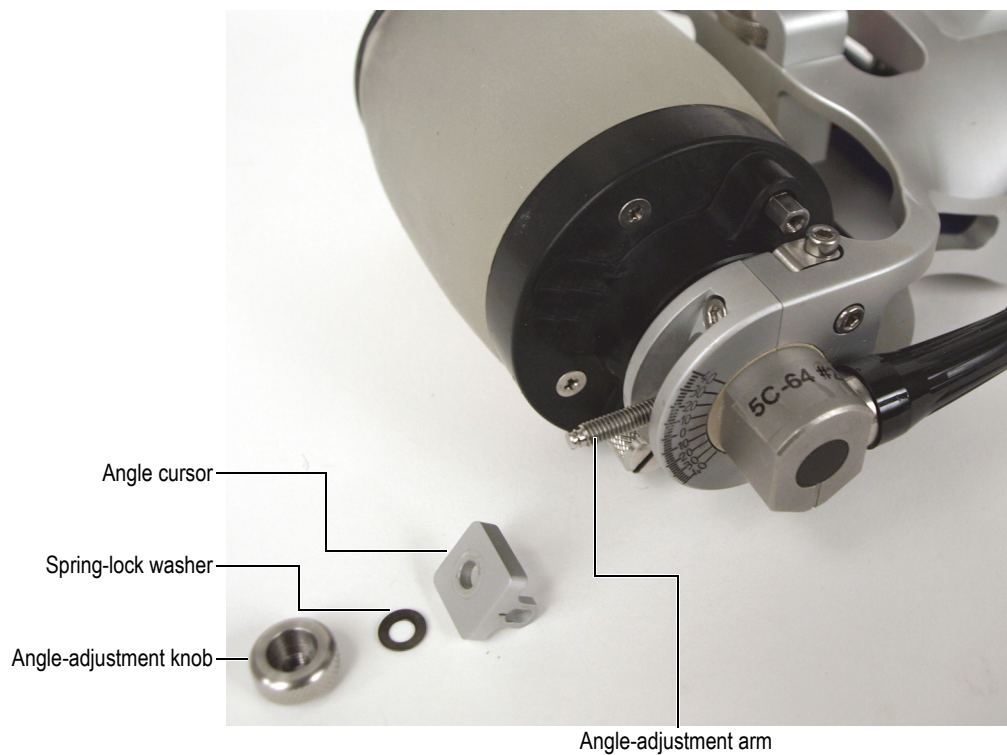

Figure 6-1 Removing the probe angle-adjustment components
1. Remove the probe angle-adjustment knob, the spring-lock washer, and the angle cursor from the angle adjustment arm on the RollerFORM (Figure 6-1 on page 78).